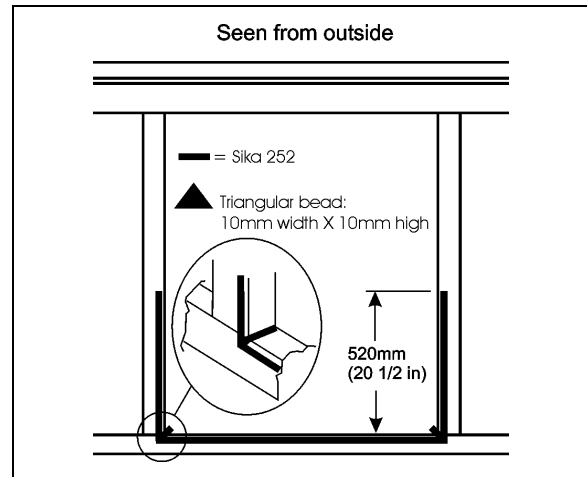

FIGURE 71: AWNING WINDOW – SIKA 252 APPLICATION
- Apply Sika 252 as per FIGURE 71 (triangular bead: 10mm width X 10mm high) [10mm≈3/8”];